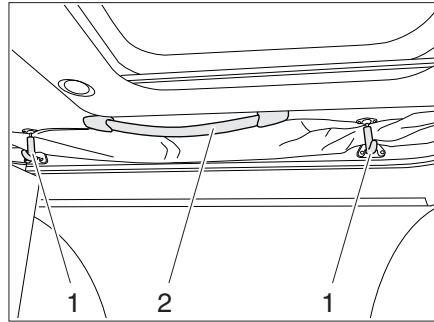

Fig. 52 Lifting roof
- Release the safeguards (Bild 52,1) by pulling them lightly.
- Push the lifting roof upwards at the handles (Bild 52,2).
- Pull the lifting roof downwards at the handles (Bild 52,2).
- Lightly pull the safeguards (Bild 52,1) downwards and hook them in again.